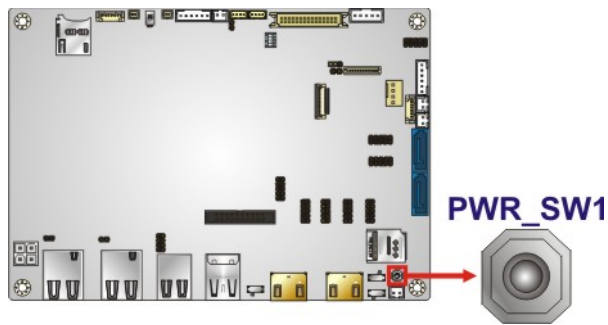

Figure 3-21: On-board Power Button Location
- CN Location:** See **Figure 3-21**